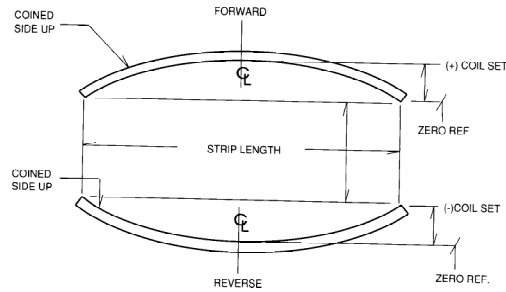

Figure 2
3.3 *coil set* — longitudinal bowing of the leadframe strip length (see Figure 2).